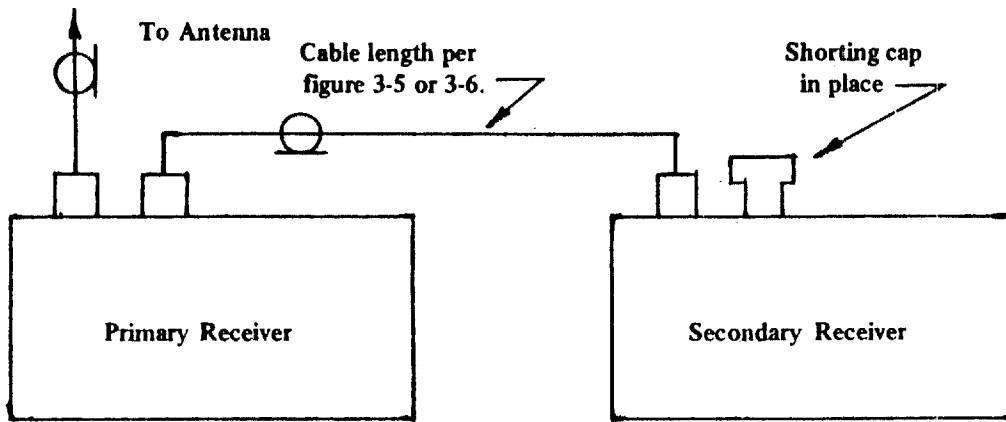
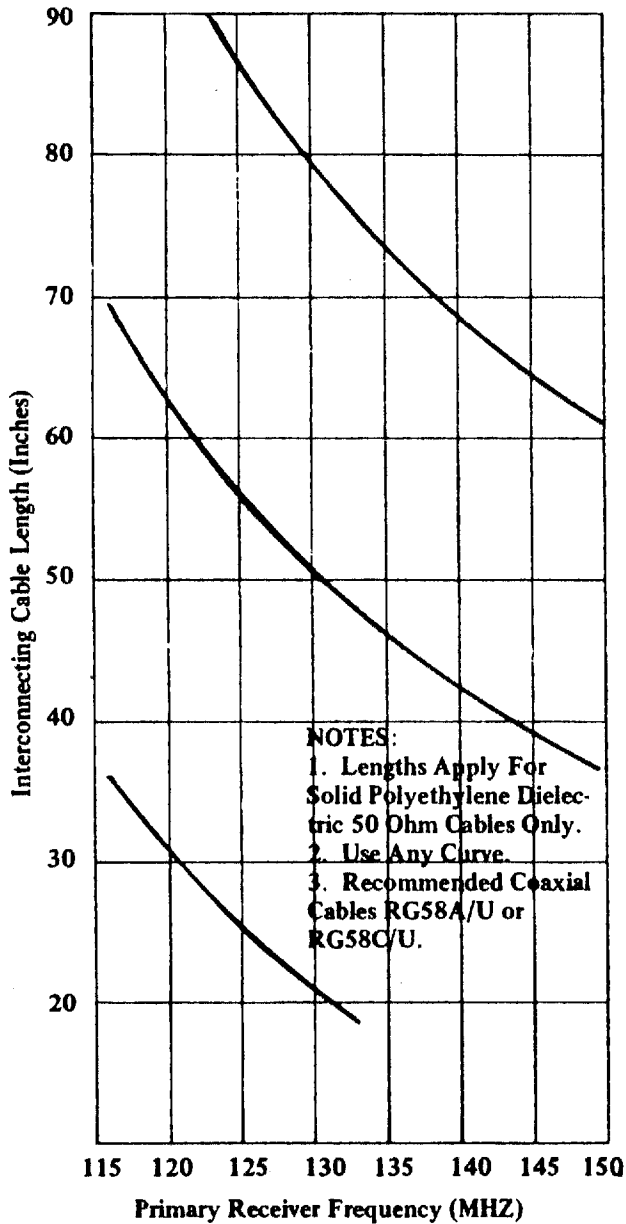

Figure 3-4. Connection For Two Receivers Operating From Common Antenna
Figure 3-5. VHF Interconnecting Cable Length Vs Frequency
b. Connect the two receivers as shown in Figure 3-4. The proper length of cable between the two receivers must be used. The cable length is determined by the frequency of the primary receiver (See Figure 3-4). See Figure 3-5 or 3-6 for the proper cable length. Where more than one length is given either may be used. At the higher frequencies cable lengths become more critical for optimum receiver performance. Length is to be measured to the end of the center pin of the coaxial line. Total length should include any adapters used when the cable is not terminated with Type N connectors.